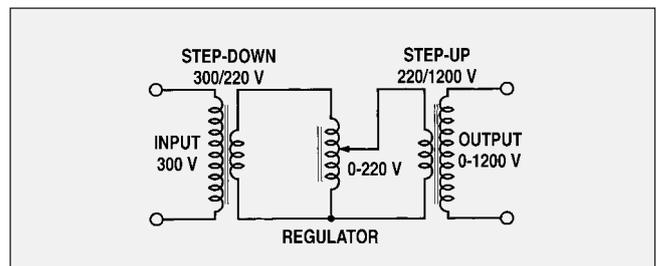

Fig. 47 - Supply and load voltages beyond regulator range
**Supply and load voltages beyond regulator range (Fig. 47)**